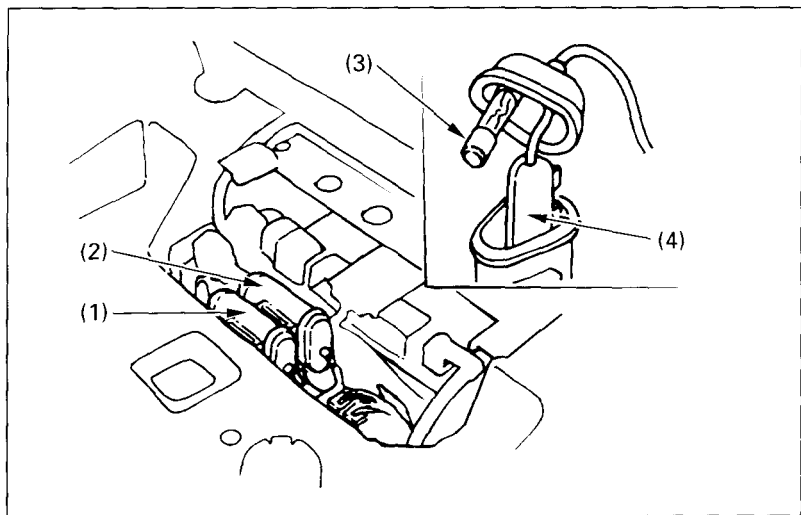

Fig. 4-19 (1) Main fuse (Red wire)
As illustrated in Fig. 4-19, the main fuse (1), the sub fuse (2) and the spare fuse (3) are located in the battery compartment. (The main fuse is connected to the red wire.)